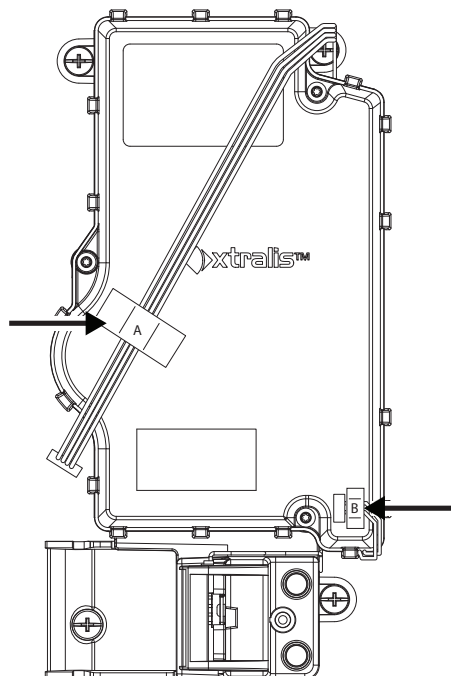

Figure 7-17: Position the Chamber looms
2. Position the chamber looms (A) and (B) as shown in Figure 7-17.